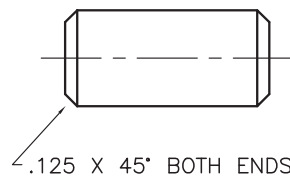

Fig. 16-18
5. Draw the shaft shown in Fig. 16-18. Make it **2** units long by **1** unit in diameter. Use the **CHAMFER** command to place a chamfer at each corner. Specify **.125** for both the first and second chamfer distances.